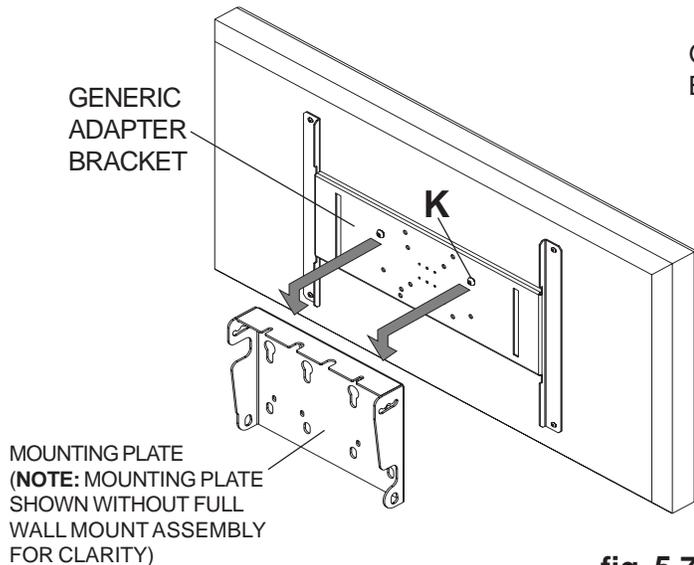

fig. 5.7
- 5 Thread two M10 x 15 mm screws (K), leaving .25" exposed thread, into top holes on back of screen. Hook screen onto mounting plate, and attach using two bottom M10 x 15 mm screws as shown in figures 5.7 and 5.8. Tighten screws using 6 mm allen wrench (not included).